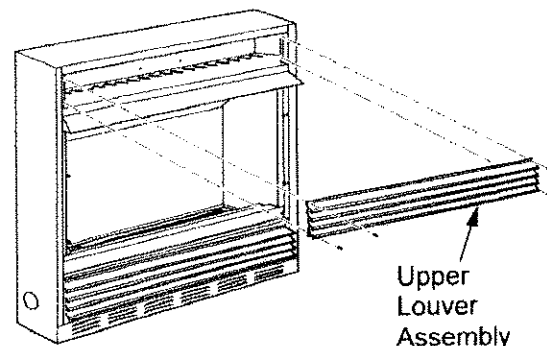

Figure 11 - Removing Top Louver
1. Unscrew four screws that attach top louver to fireplace. Remove louver from fireplace and set aside (see Figure 11).